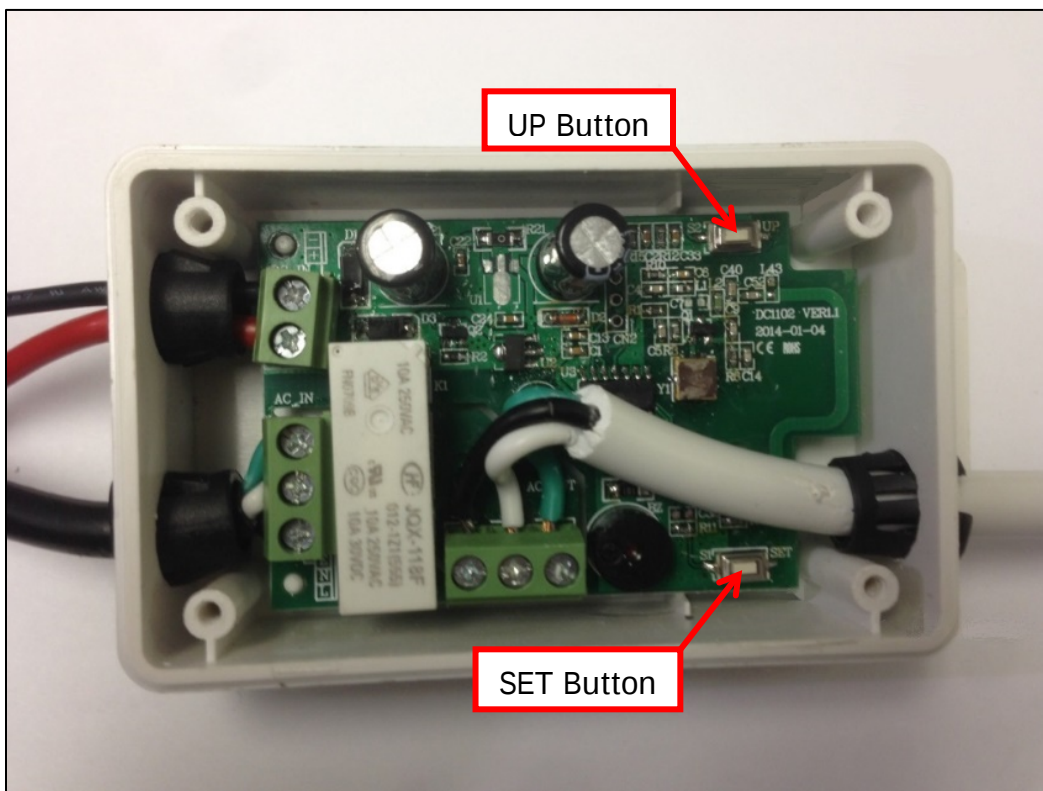

Figure 2
- a) Remove the four screws on top of the 98GC1102 to open the Lid (See figure 2).
- b) With the engine **ON** press the **SET button** (see Figure 2) on the Ignition lockout for 6 seconds until you hear a beep.
- c) Press the **UP button** shown in Figure 2 to change the delay. Each press will be followed by a beep and it will increase the delay by one second.